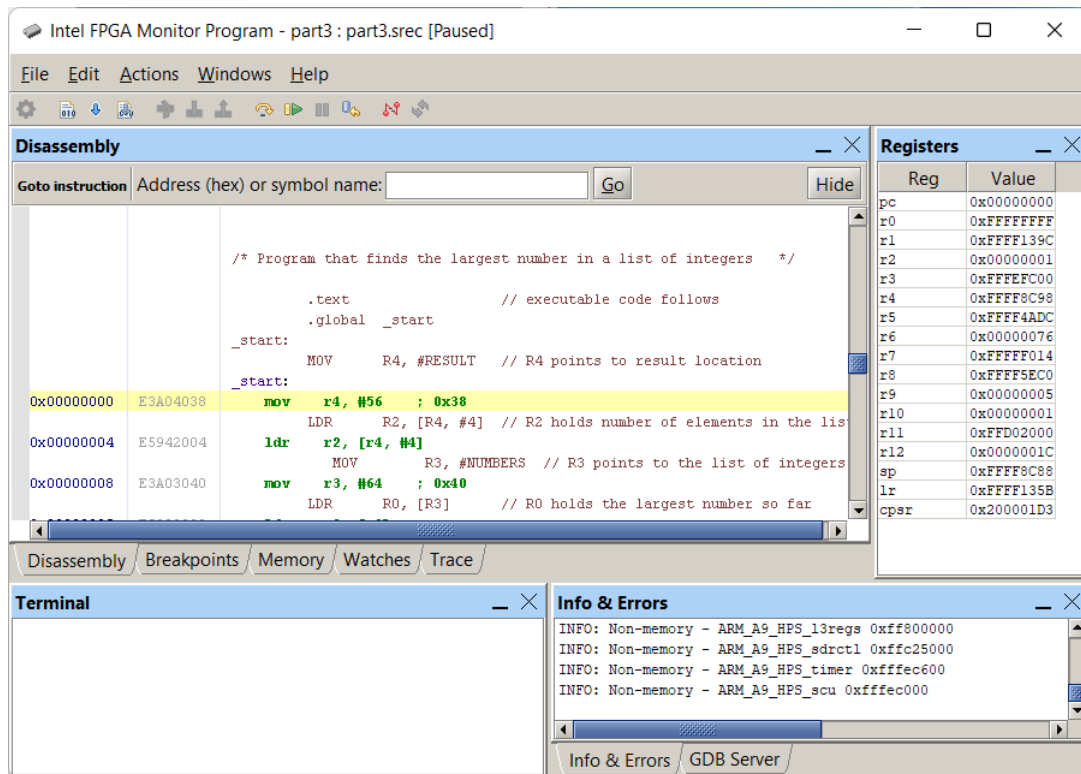

Figure 10: The disassembled view of the program in Figure 9.
3. Compile and load the program. The Monitor Program will display a disassembled view of the machine code loaded in the memory, as indicated in Figure 10.